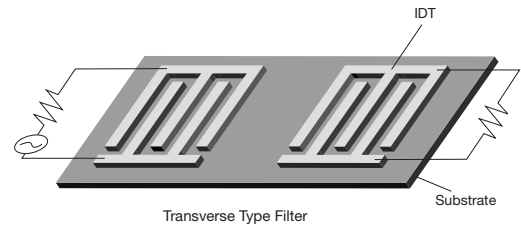

Figure 6)
- Transversal type filter consisting of a pair of IDTs on a piezoelectric substrate (Fig. 6).